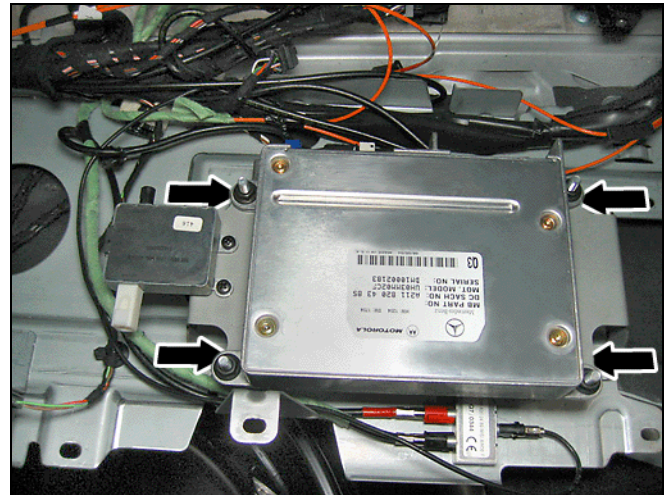

**Figure 14**
2. Find the MOST coupling (A, Figure 14) in the looped optical fiber taped to the bottom, right of the equipment carrier.
3. Remove the tape (B, Figure 14) to free up the MOST optical fiber.
4. Disassemble the MOST coupling and carefully remove the fiber end (Arrow, Figure 14).
- a. Insert the fiber end (B, Figure 10) of the MOST adapter cable into the vacant chamber (A, Figure 14) of the disassembled MOST coupling and reassemble the coupling.
- b. Insert the fiber end removed of the MOST coupling (Arrow, Figure 14) into the vacant chamber (C, Figure 10) of the MOST adapter connector.